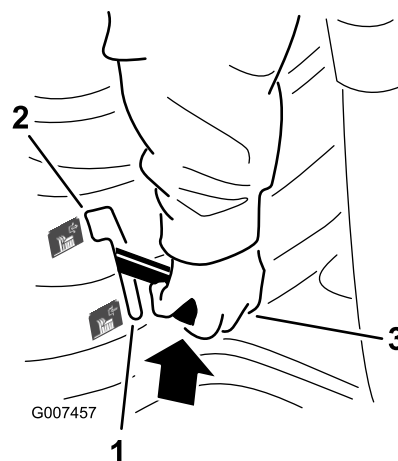

Figure 10
4. Shift the blade control (PTO) lever to Disengage (Figure 10).